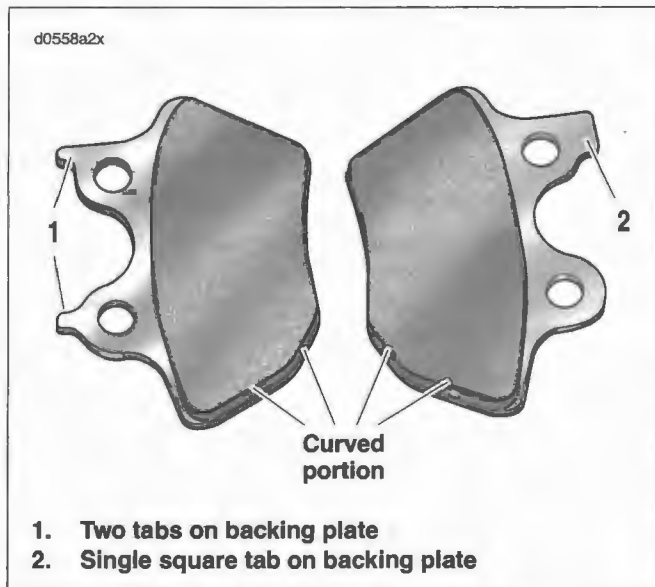

Figure 2-87. Brake Pad Alignment
- See Figure 2-87. Install pad with two tabs (1) on the inboard side of the rear caliper.